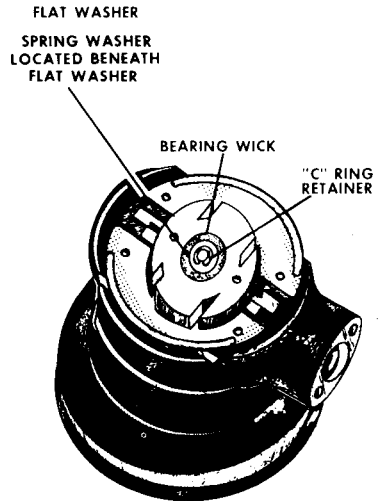

Figure 13 - Bottom view stator housing
Disassemble the disposer to the point shown in Figure 13, by following the procedure described in the appropriate section for removing
1. Disengage the rotor shaft retainer from the groove on the bottom of the rotor shaft, Figure 13.
To check the rotor for an open coil, defective commutator bars, or other defects, it must be removed from the stator housing. Refer to Figure 13 and Step 1 under STATOR HOUSING for removal.